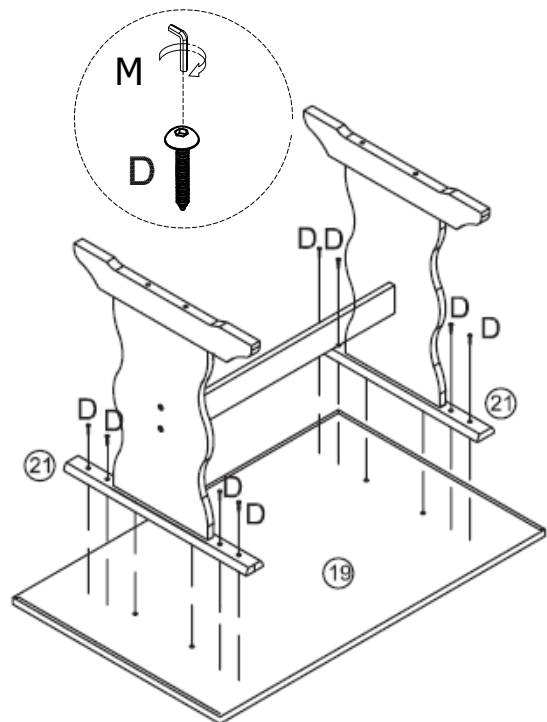

Figure 4
- Lay Table Top (19) bottom-side up as shown on a material that does not scratch the part.
- Attach Seat Top Support (21) on leg assembly completed in STEP 3 to bottom-side of (19) via wood dowels on (21) as shown in Figure 4. Note: wood dowels to be inserted into the two inner-most middle holes.
- Use Screw (D) to fasten (21) to (19).